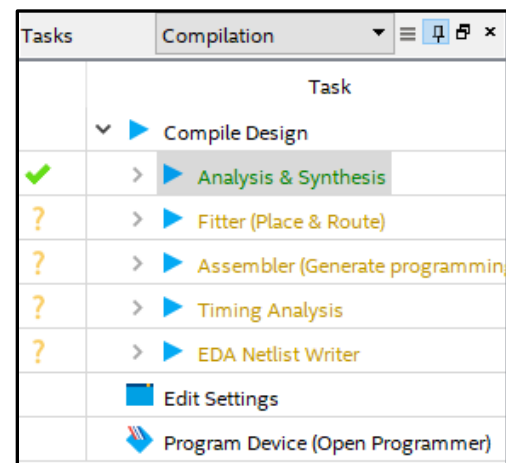

Figure 6: Completed Functional Compile
1. To functionally compile your design, double click the “Analysis & Synthesis” in the Compilation window shown in Figure 6 or select the symbol . Figure 6 shows the result of the Functional Compiling.